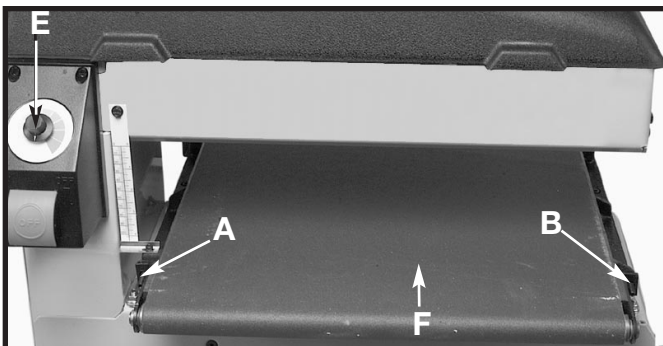
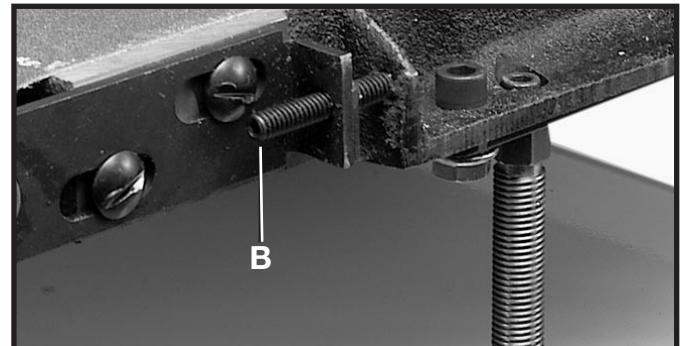

Fig. 17A
Fig. 17B
1. The tracking and tensioning of the feed belt has been set at the factory. Before making any adjustments place a reference mark on the table on either side of the belt using a lead pencil. Using a visual aid mark will help the user observe the direction of belt movement over time. Turn feed/speed knob (E) Fig. 17A "ON" and adjust to the **maximum speed**. Let the belt run and observe tracking direction. If the belt does not make any measurable side movement within five minutes of running, no adjustment is needed.
2. If belt (F) is tracking **to the right**, use the 1/8" T-handle hex wrench provided. Turn the right set screw (B) Fig. 17A clockwise 1/4 turn or less.
3. If belt (F) is tracking **to the left**, use the 1/8" T-handle hex wrench provided. Turn the right set screw (B) Fig. 17A counterclockwise 1/4 turn or less.
5. To adjust belt tension, turn both set screws (A) and (B) Fig. 17A (one is shown at (B) Fig. 17B) clockwise in 1/4 turn increments, until the feed belt is tensioned sufficiently to prevent slipping. **NOTE:** When adjusting belt tension, **turn both set screws the same amount. DO NOT** over tension the belt. Excessive tension will cause premature wear of belt, bearings and overload the motor. Listen for motor load speed changes when adjusting belt tension.